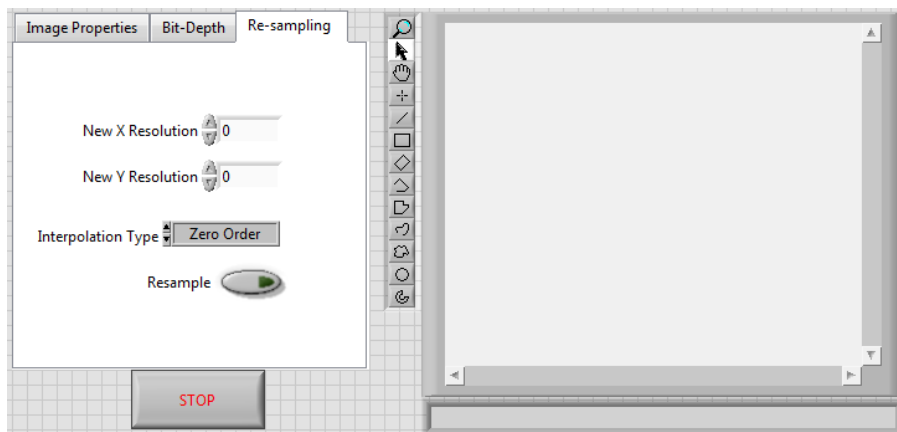
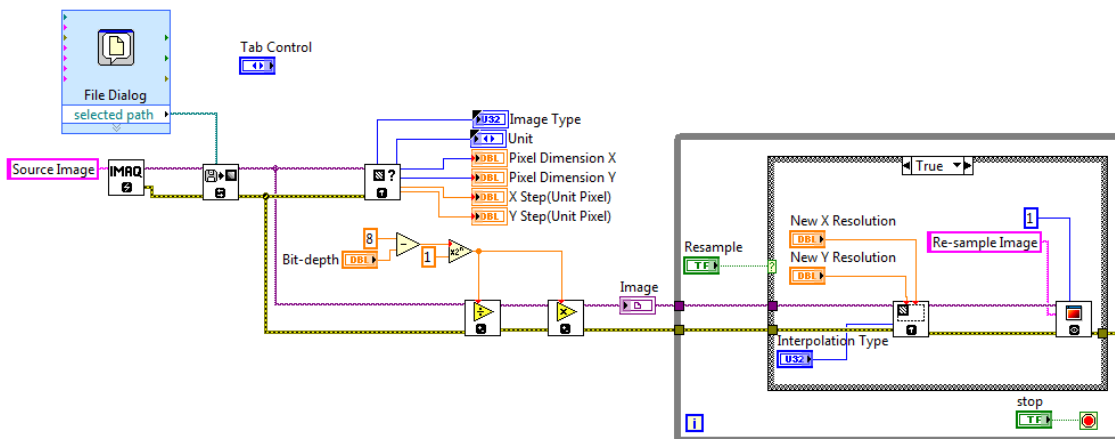

Figure 9: Front Panel of Exercise 3
Figure 10: Block Diagram of Exercise 3
- Open **Exercise 2** and modify the **Front Panel** as shown in Figure 9 and Figure 10.
- Modify the **Block Diagram** as shown in Figure 10 by executing the following steps.